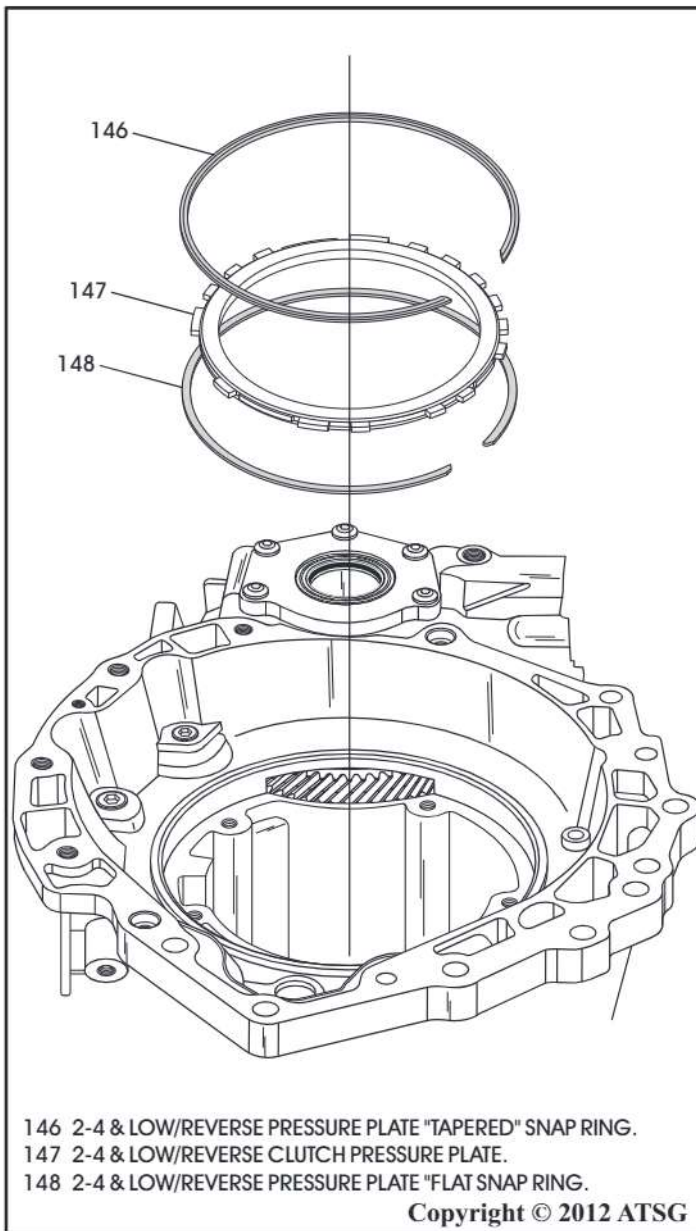

Figure 69
55. Remove the 2-4 & low/reverse clutch pressure plate "tapered" snap ring from case, as shown in Figure 69.
56. Remove the 2-4 & low/reverse clutch pressure plate, as shown in Figure 69.
57. Remove the 2-4 & low/reverse clutch pressure plate "flat" snap ring from the case, as shown in Figure 69.